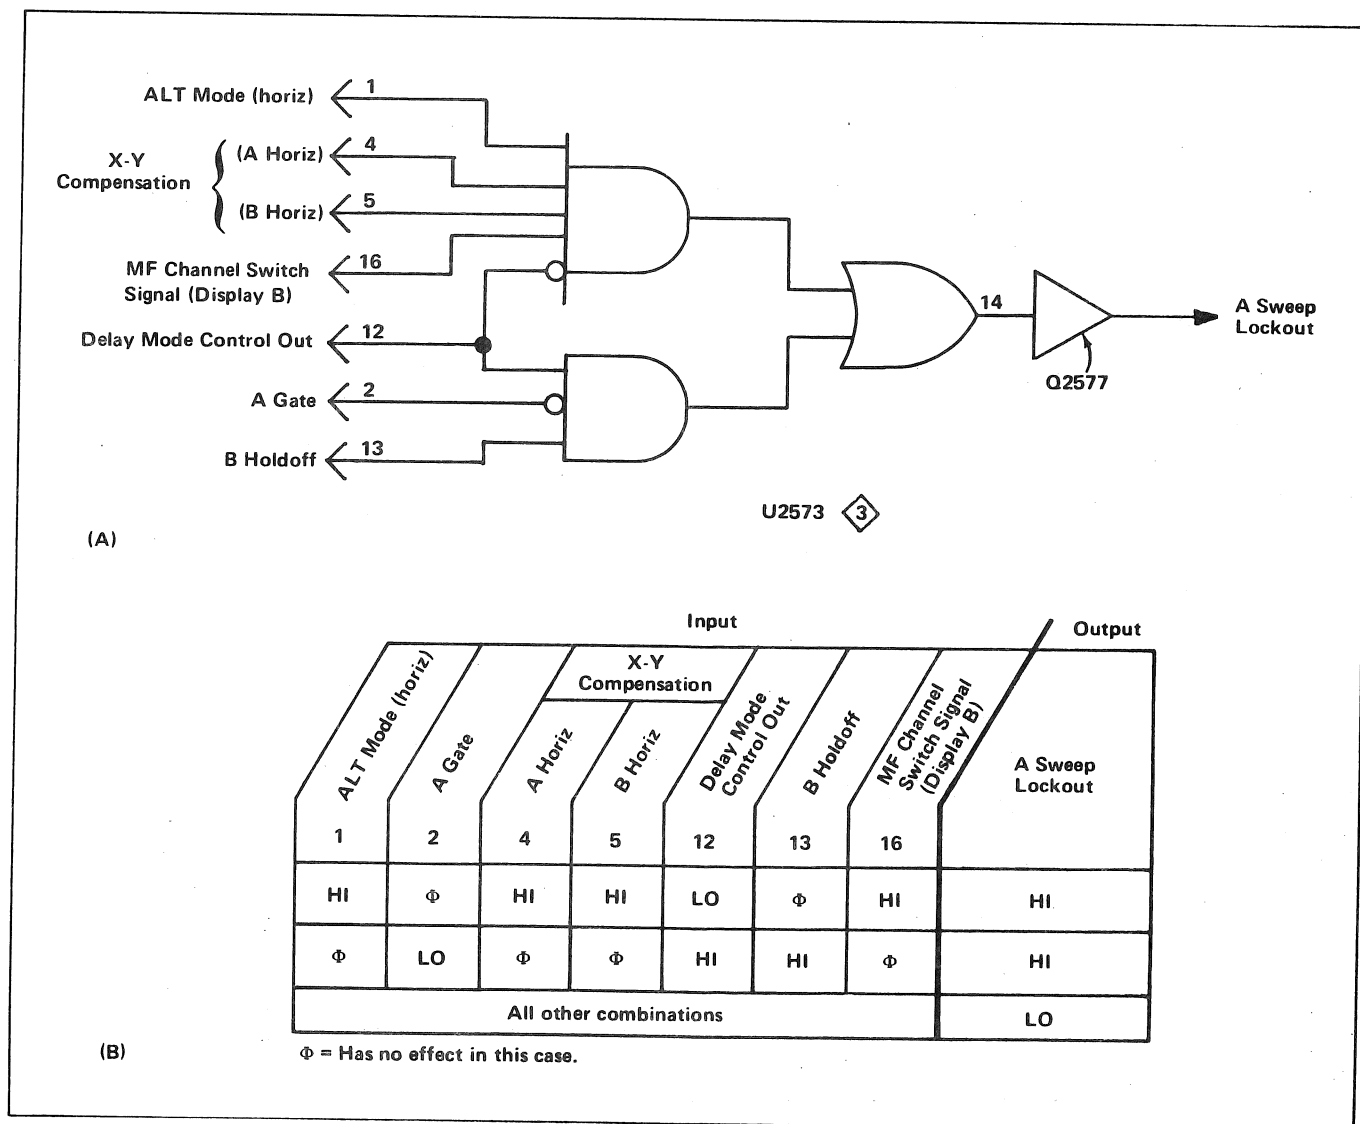

Figure 3. (A) Logic diagram for A Sweep Lockout stage; (B) Table of input/output combinations.
As shown by the logic diagram and input/output table of Figure 3, only two combinations of input conditions produce an A Sweep Lockout level (HI); if any one of the prescribed conditions is not met, the A Sweep Lockout level is LO and the A HORIZ time-base unit is enabled.